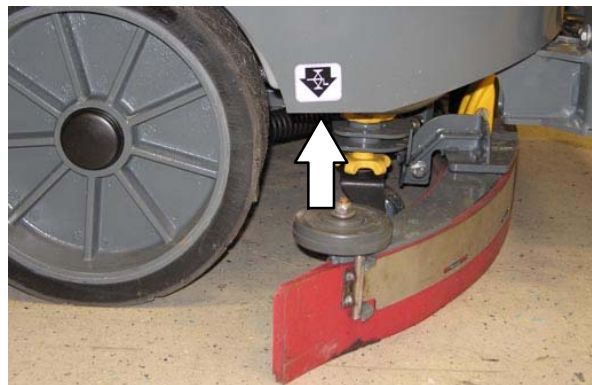

FIG. 1
4. Jack up the back side of the machine high enough to remove the rear wheel from the machine. Position a jack stand under the frame of the machine and lower the machine onto the jack stand. (Fig. 1)